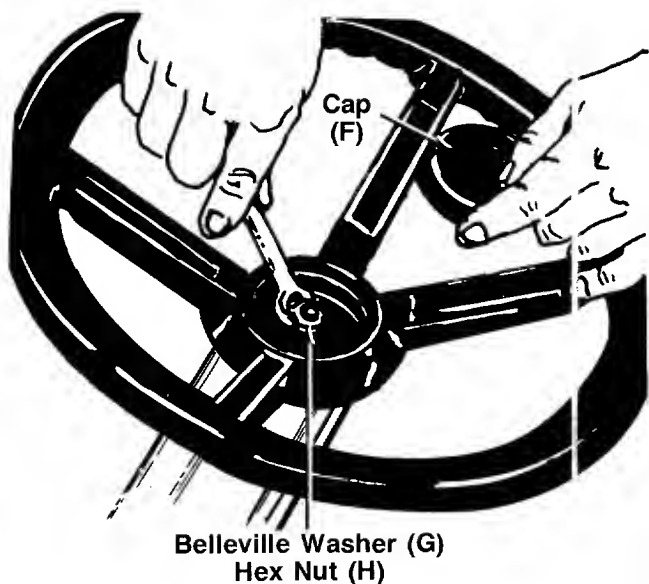

FIGURE 10.
16. Secure with **belleville washer (G)** (cupped side against the steering wheel) and **hex nut (H)**. See figure 10.
17. Press the **steering wheel cap (F)** on the steering wheel by hand.